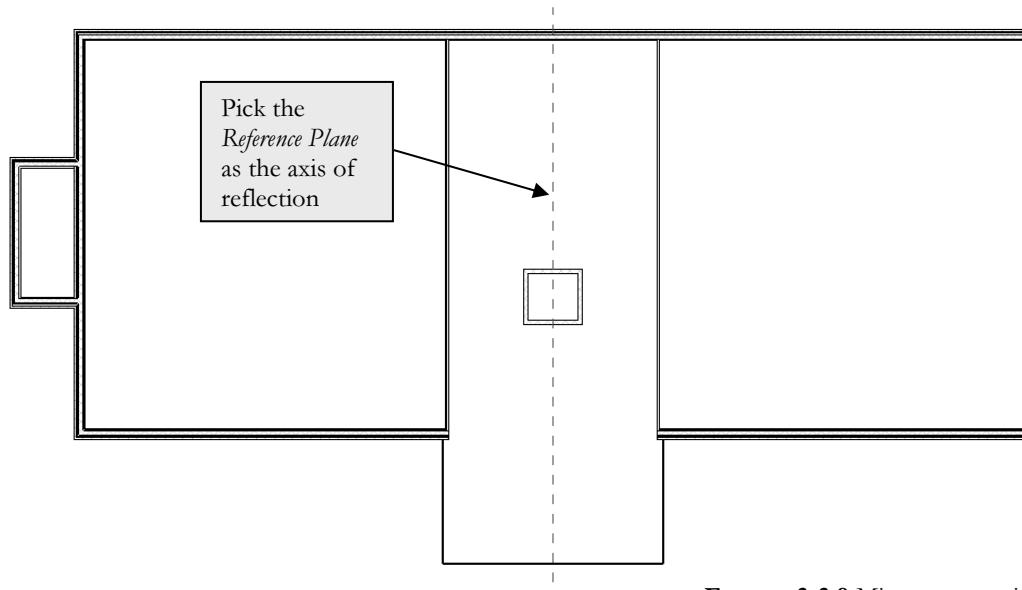

FIGURE 3-3.9 Mirror west stair
- 25.** Draw a Reference Plane snapped to the vertical, centered on the South atrium wall (See Figure 3-3.9).
- 26.** Erase the four walls of the East stair shaft; this will include the main east wall of the office building (Figure 3-3.9).
- 27.** Select the six walls at the West stair (Figure 3-3.9).
28. Select the **Mirror - Draw Axis** tool (on the *Ribbon*) and then select the Reference Plane (Figure 3-3.9).